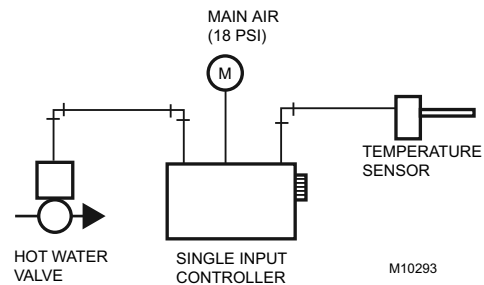
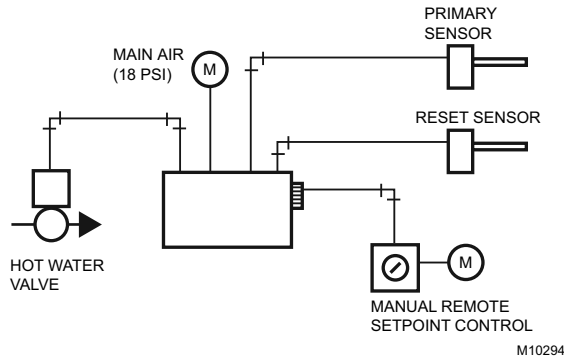

Fig. 21. Single-Input Controller.
Fig. 22. Dual-Input Controller with Manual Remote Setpoint.
Figure 21 depicts a single-input controller as it would appear in a simple application. Figure 22 depicts a dual-input controller with manual remote setpoint control. In Figures 21 and 22 the sensors are fed restricted main air from the controllers. Where sensors are located extremely remote from the controller, a remote restrictor may be required.
Variations of single-input and dual-input controllers can provide proportional-integral (PI) control. PI controllers are used in critical applications that require closer control than a proportional controller. A PI controller provides close control by eliminating the deviation from setpoint (offset) that occurs in a proportional controller system. PI controllers are similar to the controllers in Figures 21 and 22 and have an additional knob for adjusting the integral reset time.